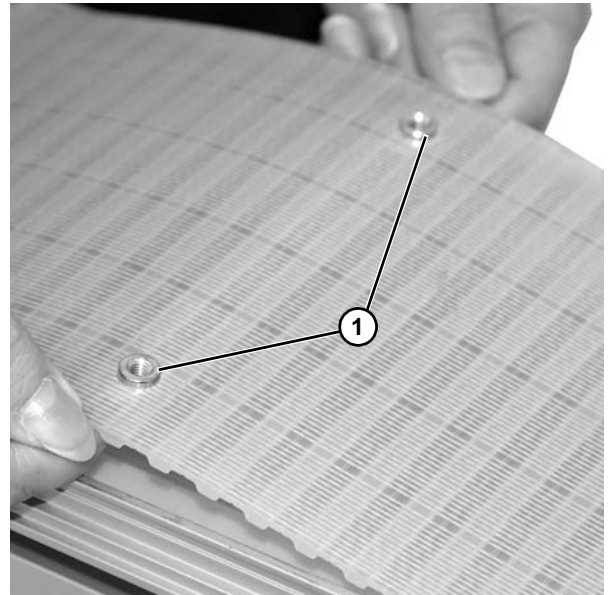

Figure 14
2. Install inserts (Figure 14, item 1) from underside of belt.